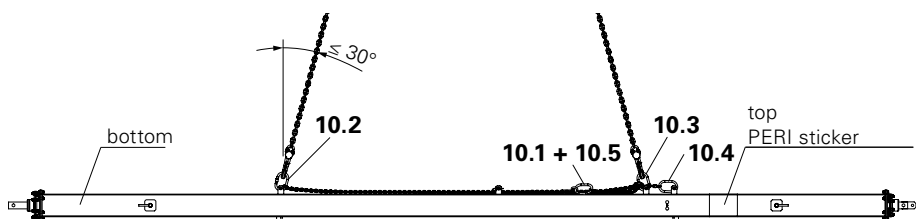

Fig. A3.08
3. Lift push-pull prop with crane. (Fig. A3.08)